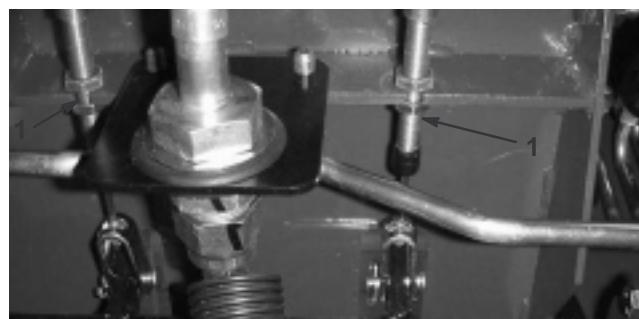

Figure 47
- A. Loosen the front nut on the threaded end of the brake cable (Fig. 47).